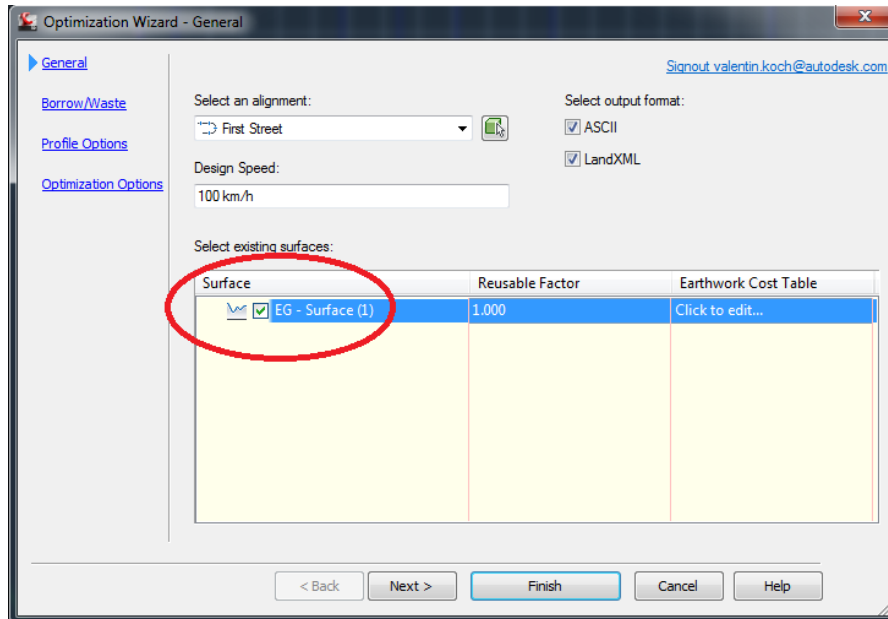

Figure 11: Existing ground surface
6. Select an *Existing Ground* (EG) surface profile (see Figure 11). For multiple horizontal alignments in the same drawing, select the ground profile for which you wish to receive a vertical road profile.